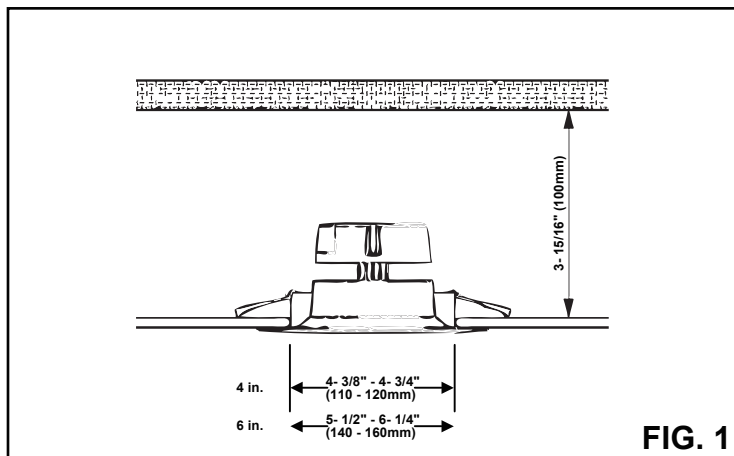

FIG. 1
3. Locate a suitable position to place the downlight and cut a hole in accordance to the cut-hole diameters as shown (Figure 1).